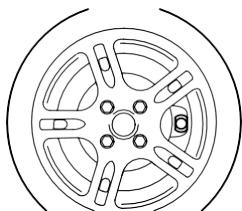

Fig. 1
- Align the wheel so that the receiver can be seen in the centre of the rim opening. DO NOT use the rim opening in which the tyre valve is fitted. (Fig. 1)